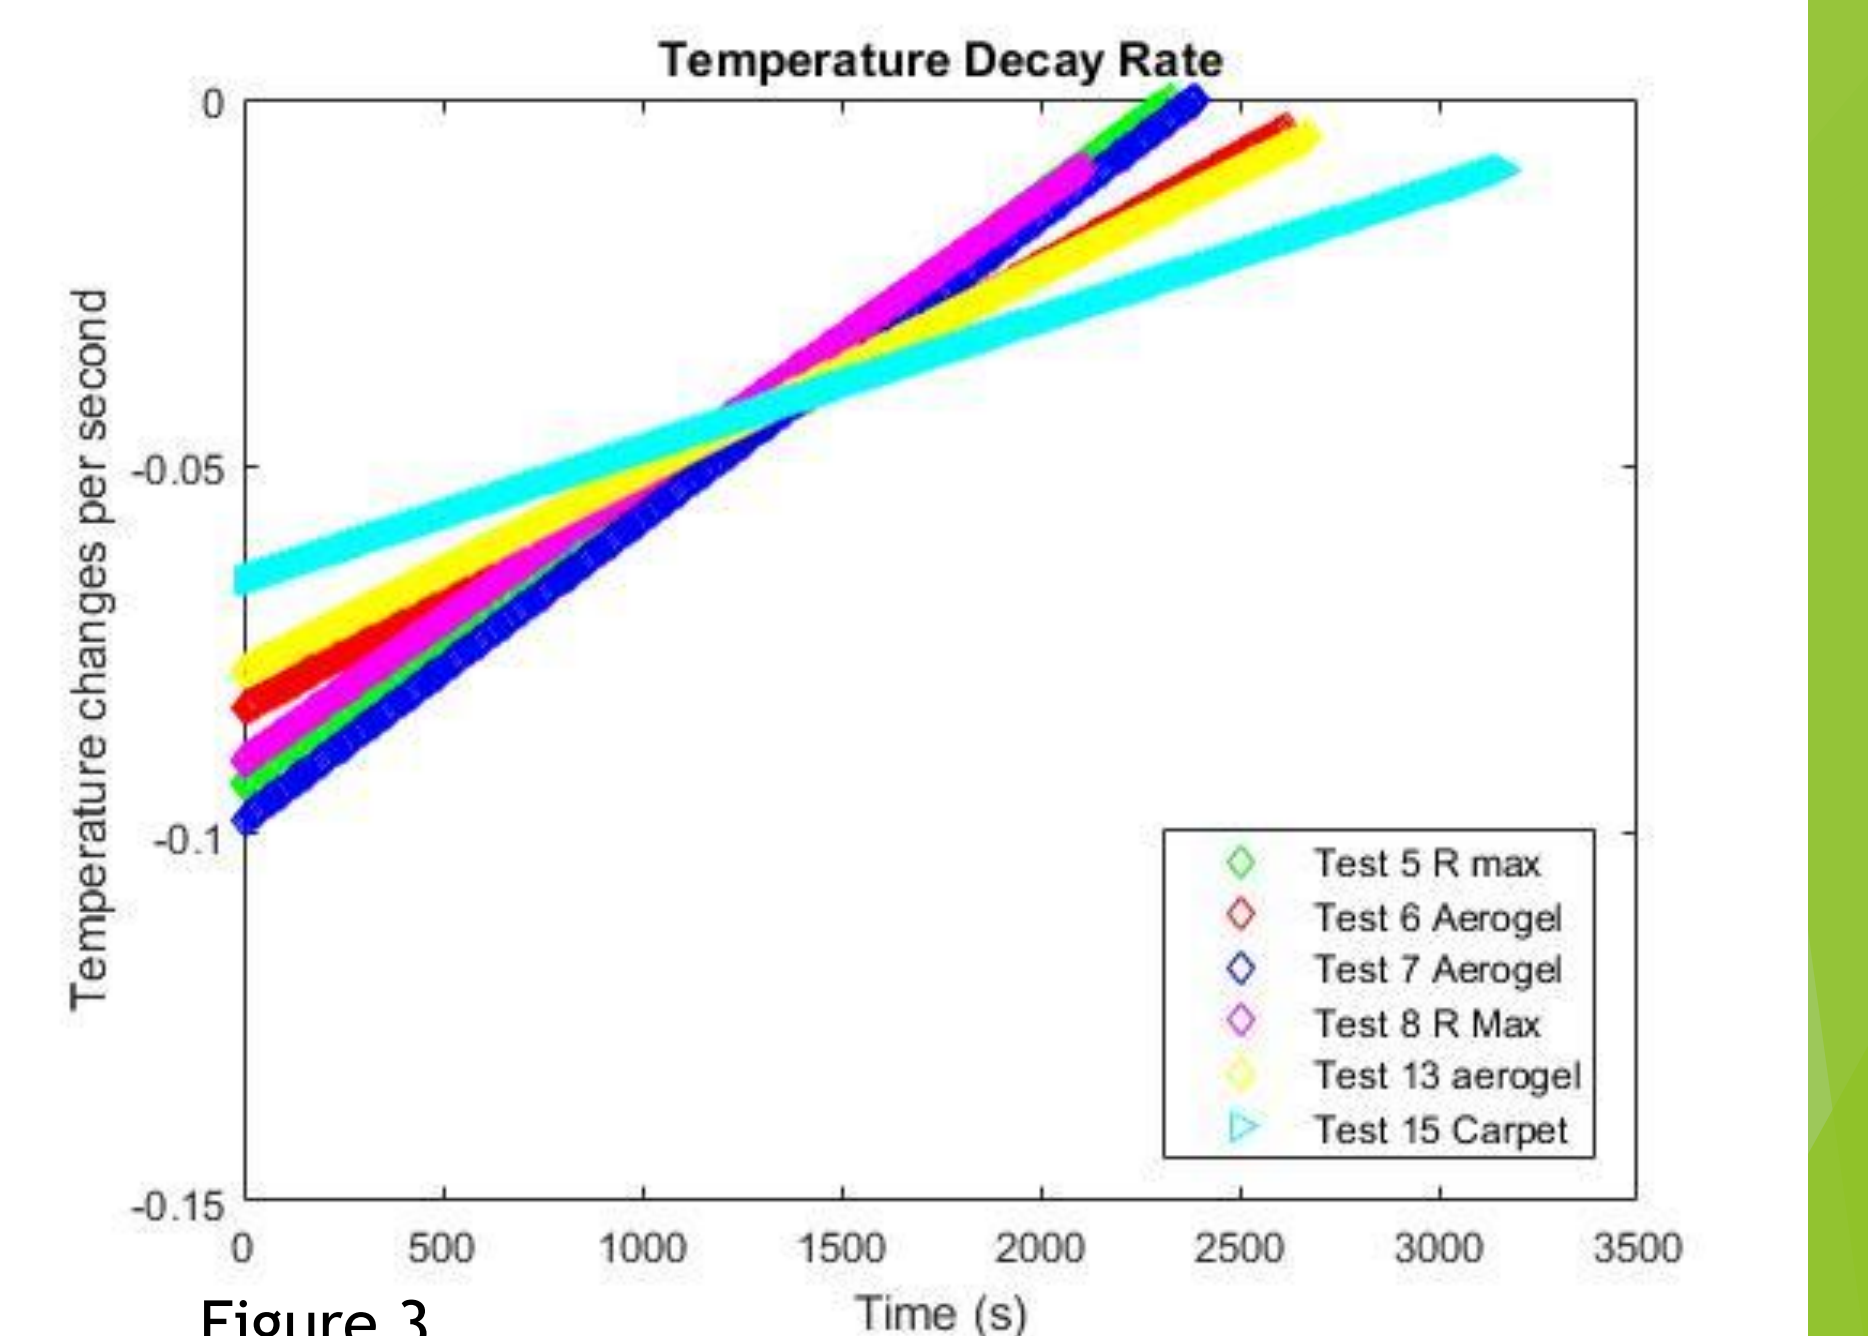

Figure 3
- Figure 3 demonstrates comparison of the temperature decay rate for the different insulations. The lower slope indicates a more effective insulation.